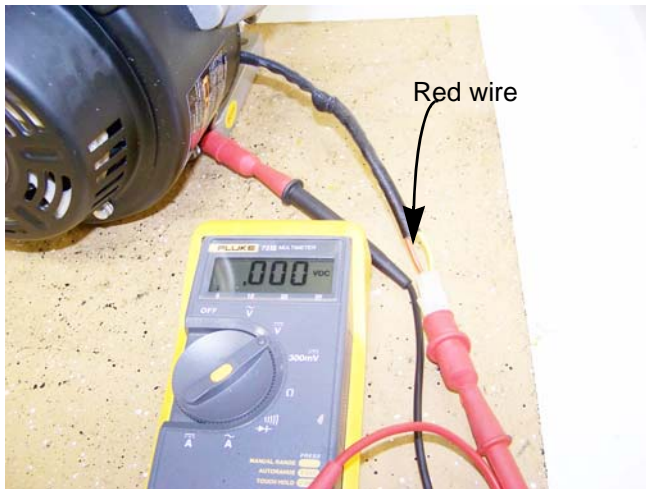

Figure 6.15
8. Move the red (+) to the red wire of the charger harness. See Figure 6.15.